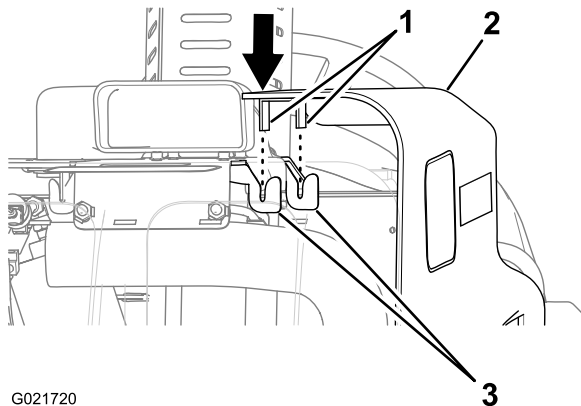

Figure 38
2. Align the tabs at the top of the side panel with the receiver brackets on the machine (Figure 38).